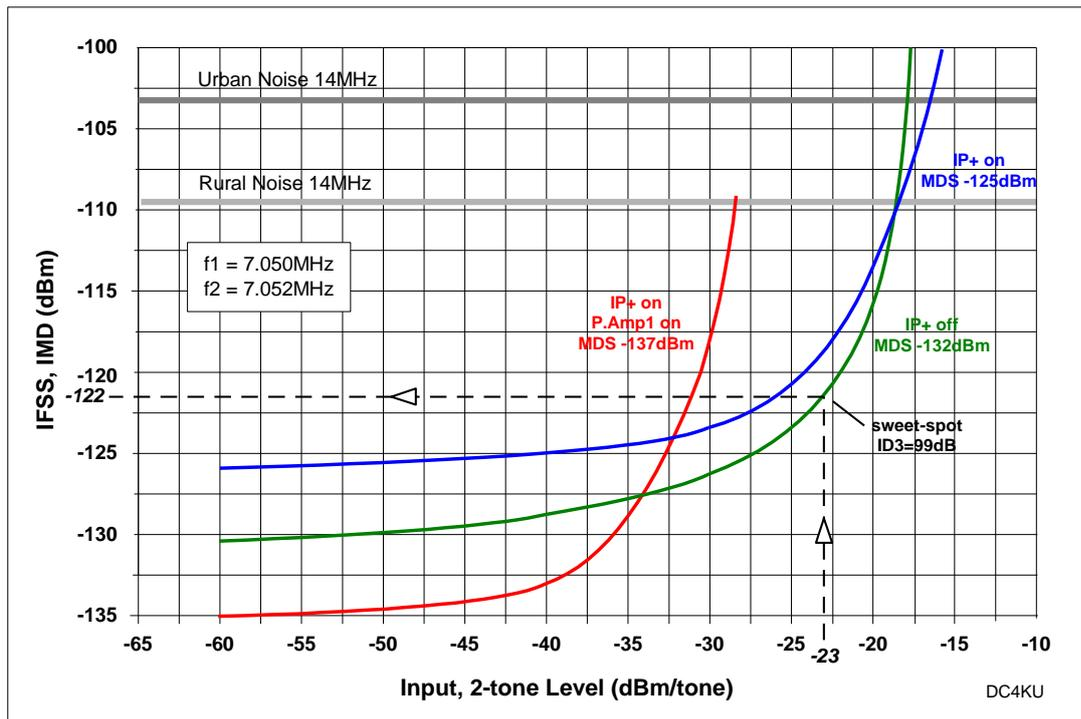

Figure 7: IFSS curves for different settings, IP + on / off and preamplifier on / off
Figure 7 shows the IFSS curves of the IC-7300, with IP+ on/off and with preamplifier activated. The results are quite good and comparable with other high quality receivers.
All traces are far below the Rural- and Urban Noise lines (3). With an antenna connected the distortion products are always below the receiver noise floor and only appear at an input level > -17dBm (S9 +56 dB). If the preamplifier (P.AMP 1) is switched on (red curve), the dynamic range is reduced by the amount of preamp gain. A 3rd-order intercept point (IP3) cannot be determined (calculated) from the curves in Fig. 7, as IP3 does not exist in a direct-sampling SDR.
Note on “sweet spot” in Figure 7: The sweet spot is the input level which yields maximum IMD3-free dynamic range (DR3). This DR3 peak behaviour is unique to direct-sampling SDR receivers, and is discussed in detail in the presentation “A New Look at SDR Testing” given at the SDR Academy, Friedrichshafen 2016: